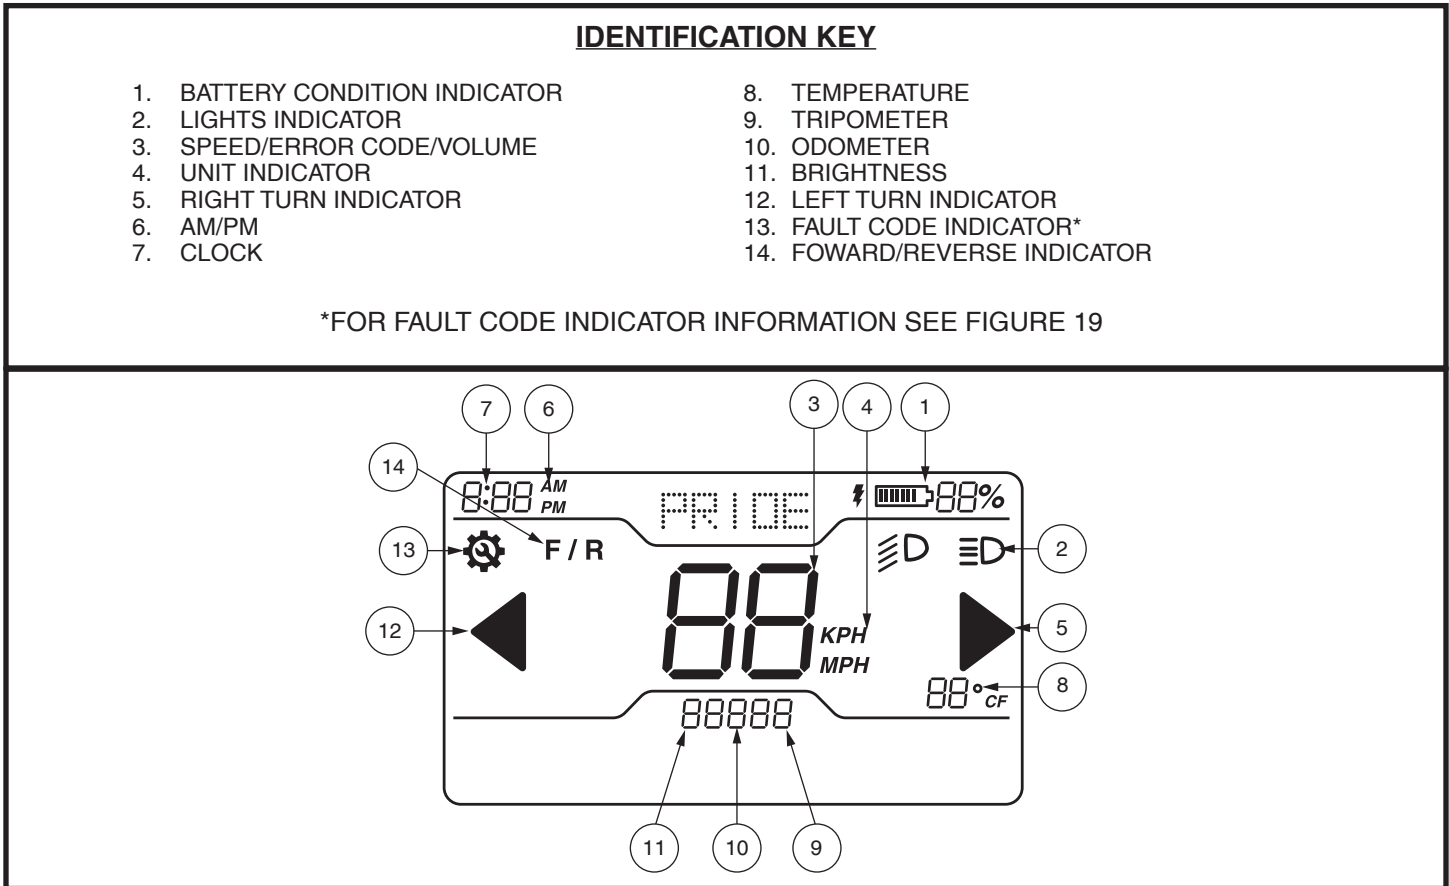

Figure 3. LCD Screen
**FOR LCD SCREEN INFORMATION SEE FIGURE 3.
The LCD control panel offers easily intuited feedback information via the LCD screen. See figure 3. The LCD screen may also be used during the set-up (activation) of the various control panel settings. See chart 1.